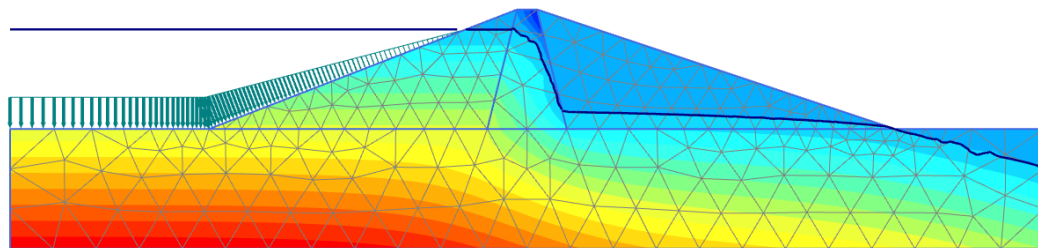

Figure 185: Pore pressure distribution, (p_{active}), for high reservoir level
- The steady-state situation with a high (standard) reservoir level is shown in Figure 185 (on page 210).